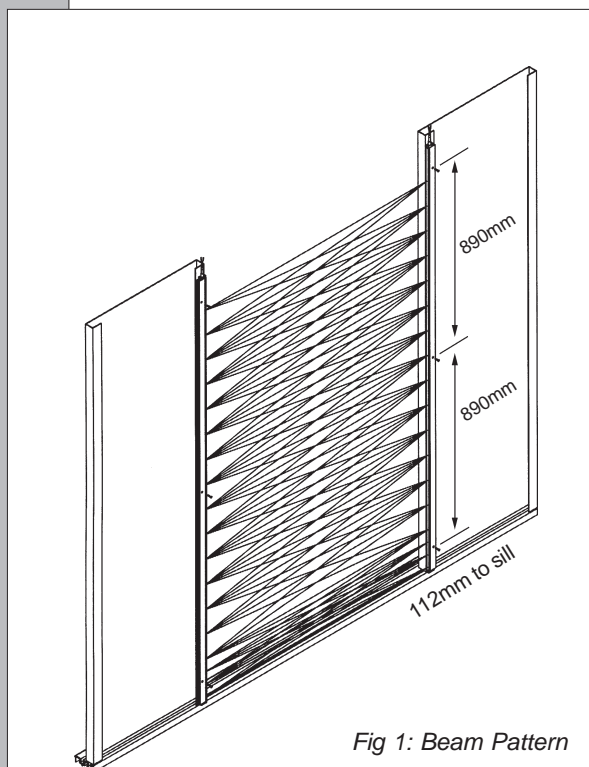
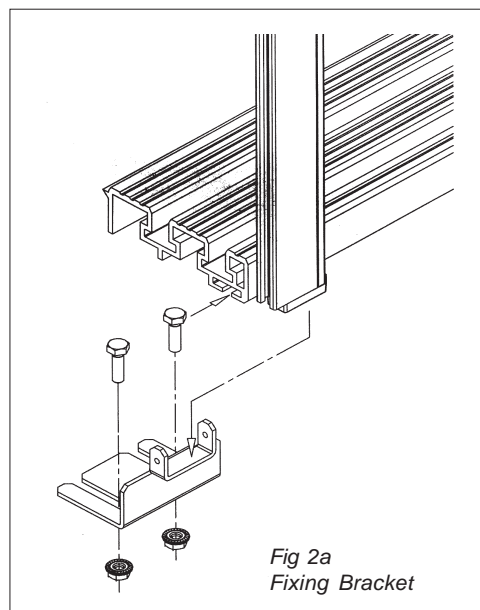
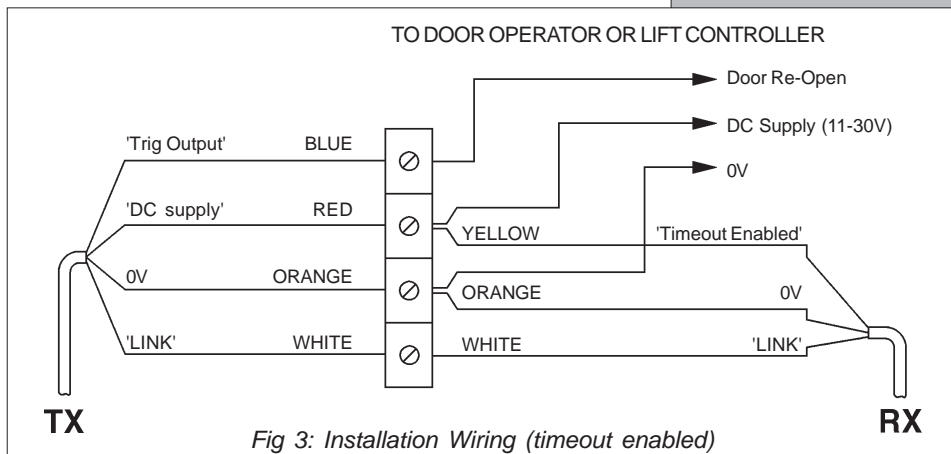

Fig 1: Beam Pattern
Fig 2a
Fig 3: Installation Wiring (timeout enabled)
The detectors can also be mounted on the car doors (see Fig 1) and will adjust auto-
The detectors are simple to install either dynamically or statically. Figs 2a, 2b and 2c show the brackets used for static installation, which are available from Memco (ref. 662 800-011). Dynamic installation is by three No 6 self-tapping screws as shown in Fig 1. The detectors are wired directly to the door operator/lift controller, as shown in Fig 3.
The dense beam pattern will pick up even small objects between the doors and any interruption to the infra-red beams across the door-opening causes the NPN or PNP output to switch state. No setting-up is required. Both detectors are supplied with a highly flexible cable, 4m long. Each cable core is terminated using boot lace ferrules. They are connected to the door operator/lift controller as shown in Fig 3.
The system has been designed to connect directly to the door operator or lift controller (Fig 3). When the infra-red beams are obstructed, a system trigger occurs and switches a transistor output. This is used by the door/lift controller to re-open the doors.